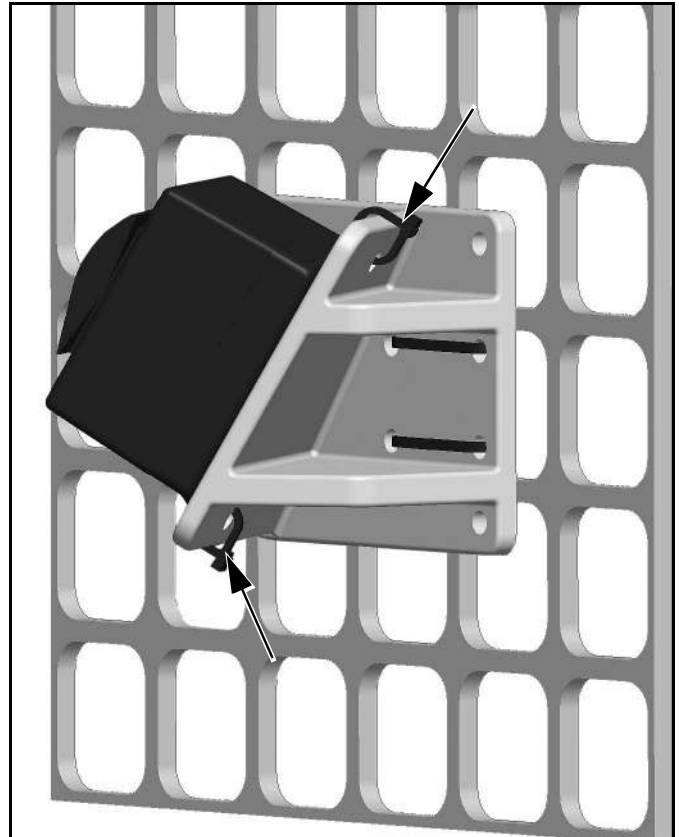

Figure 2-19
3. Secure Plow Control Box with two tie straps. (See Figure 2-19)